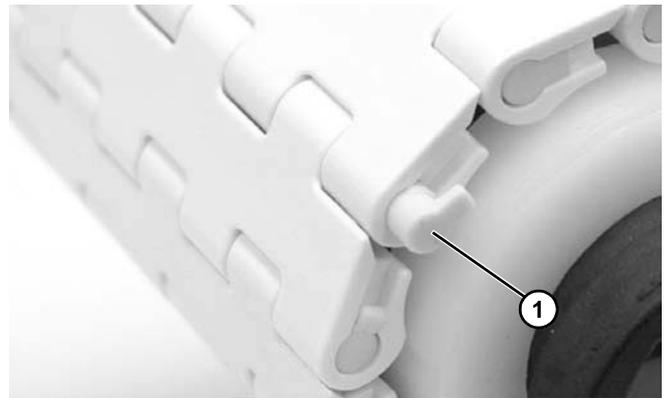

Figure 40
5. Insert rod retaining end caps (Figure 40, item 1) on both sides of belt.